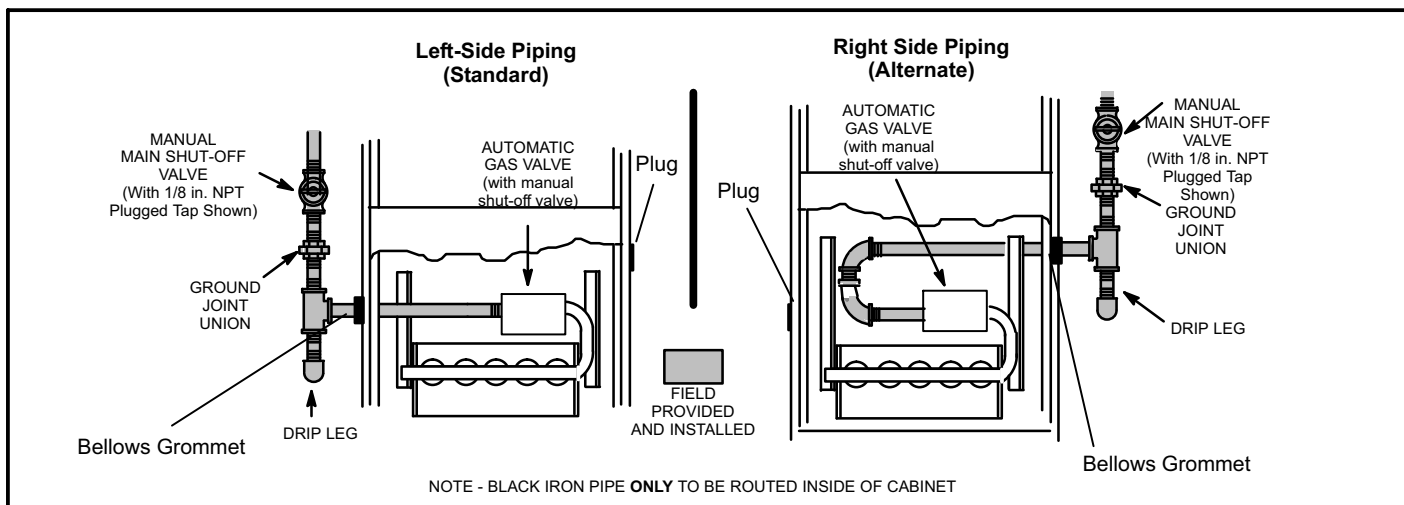

FIGURE 49
- 1 - Gas piping may be routed into the unit through either the left- or right-hand side. Supply piping enters into the gas valve from the side of the valve as shown in figure 49.
- 3 - Gas piping must not run in or through air ducts, clothes chutes, chimneys or gas vents, dumb waiters or elevator shafts. Center gas line through piping hole. Gas line should not touch side of unit. See figures 49.